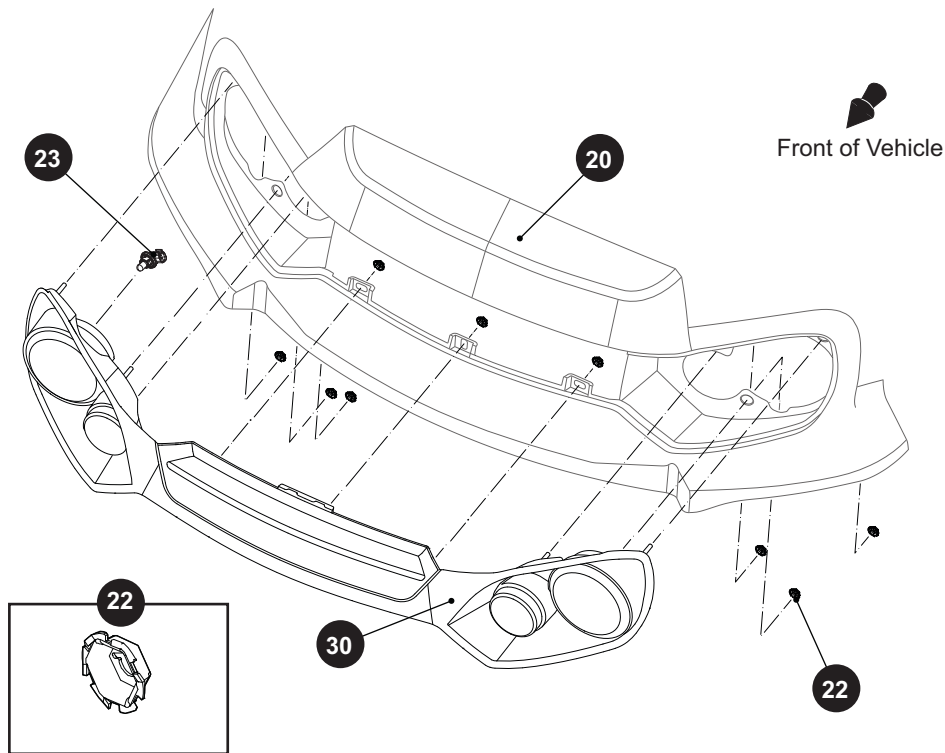

Figure 6 Headlight Grille
1. Disconnect the wire harness from the headlight (23).
2. Remove the nuts (22) that secure the headlight grille (25) to the cowl (15).
3. Remove the headlight grille assembly (30) from the outside of the cowl (20). It may be necessary to gently pry the headlight grille assembly away from the cowl (Ref. Figure 6).